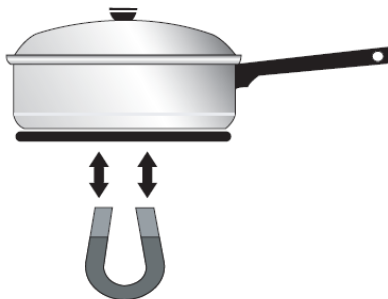

Fig. 6
- When purchasing pans, look for cookware specifically identified by the manufacturer for use with induction cook tops. If you are unsure, use a magnet to test whether the cookware type will work. If a magnet sticks to the bottom of the cookware, the material type is correct for the induction cooking. (Fig. 6)